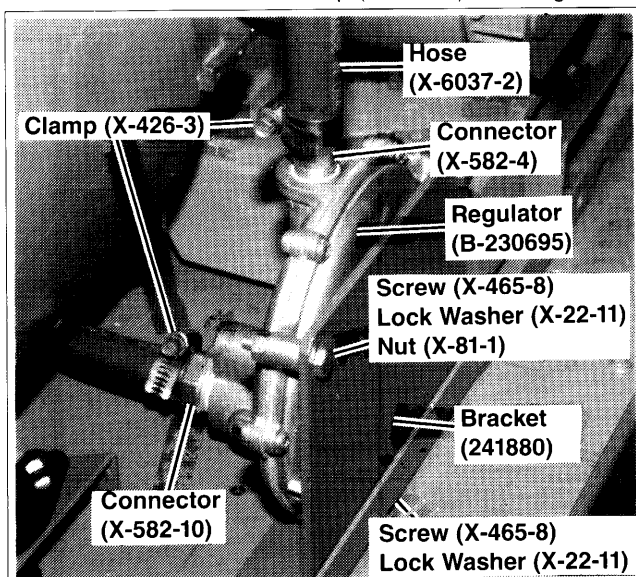

Figure 6. Regulator Installation
- Route carburetor hose over top of intake manifold to regulator. Trim hose to length (approximately 20 in./50.8 cm). Leave adequate slack in hose to avoid wear from abrasion. Secure hose to regulator 3/8 in. hose connector with clamp (X-426-3). See Figure 6.